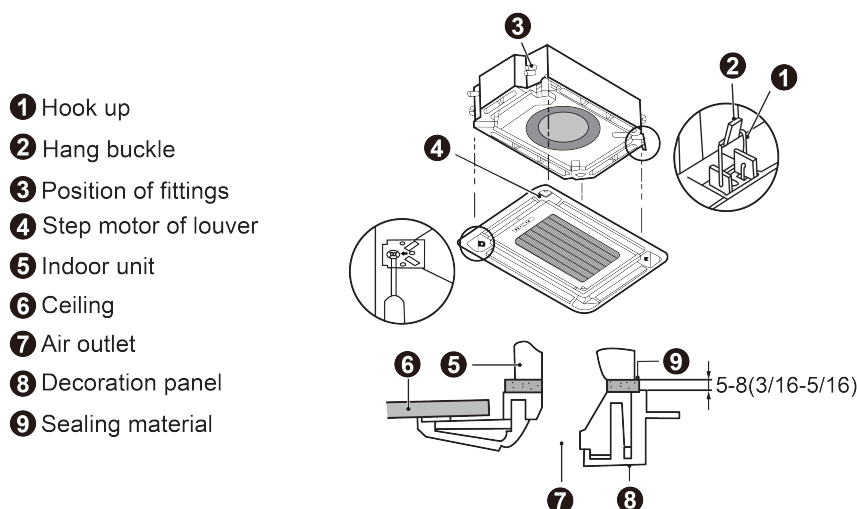

Fig.4.5.4
- (1) Detach the panel's Corner Cap, there is a mark "piping side" on one of the 4 corners, adjust the panel direction so as to keep the mark and fittings on the same corner.
- (2) Temporarily hang the panel to body (there are four hangers on each corner of the panel, hang the hangers to corresponding hooks on the body), as shown in Fig.4.5.4.
- (3) Detach the air inlet grille from panel, make a wiring connection of signal receiver. Notice that the connection wire not stuck in the middle of body and panel, or may cause air leakage and lead to condensation water drop.
- (4) Tighten 4 screws at each corner of panel respectively, fix the panel on the body firmly
- (5) After tightening screws, reinstall the air inlet grille.